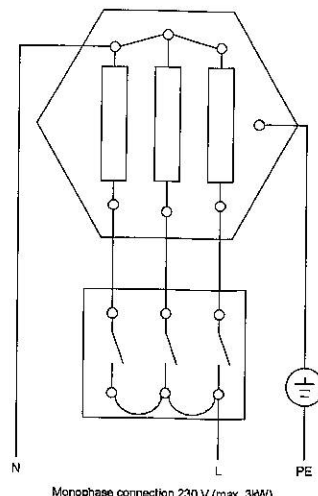

Figure 2
6. The immersion heaters are y-connected three-phase systems of 3 - 400 Volts, designed for direct control. The neutral point may not be connected to ground. For power ratings up to 3 kW, a monophasic connection with direct control for 230 Volts is possible, whereby the heating element must be connected according to figure 2. The provided terminal screw at the neutral point is intended for this purpose. This may only be performed by a licensed electrician. The bridges are to be established at the terminal screws of the regulator using 1.5mm² copper.